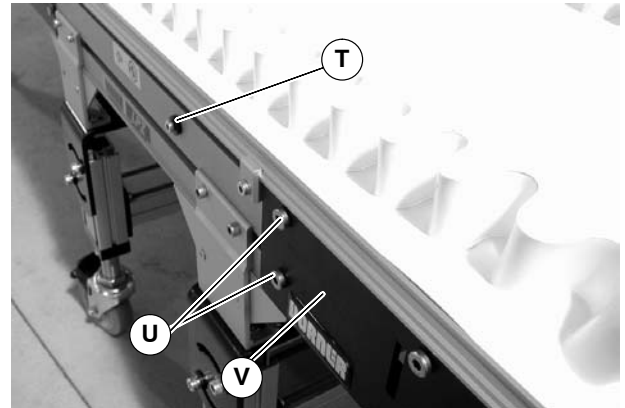
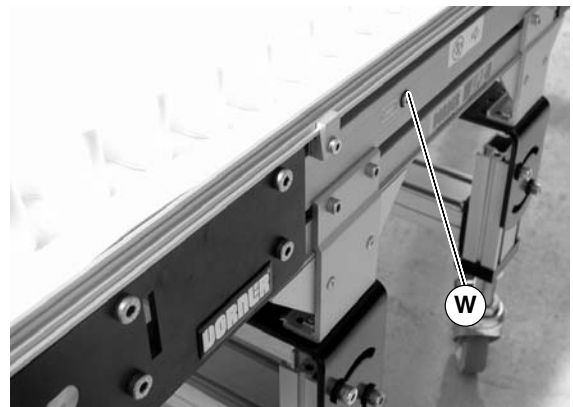

Figure 22
Figure 23
4. On tension end of the conveyor, identified by the pinion locking screw (T of Figure 22), push in head plate assembly (V): Loosen the pinion locking screw (T), adjust the pinion torque screw (W of Figure 23). On both sides of conveyor, loosen the two tail clamp
bolts (U of Figure 22), and push head plate assembly (V) inward.